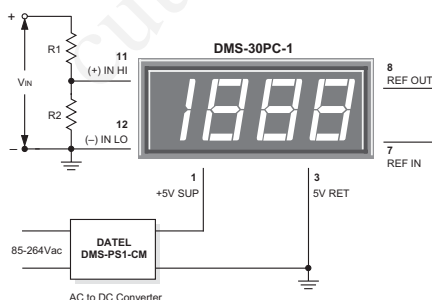

Figure 4. Input Attenuation Circuit
3. Engineering Scaling: For measuring voltages greater than the full scale input range of a given meter, the input signal must be attenuated. A simple voltage divider (similar to that shown in Figure 4) will scale the input to within the range of the selected meter. R1 and R2 should be precision, $\pm 1\%$, metal-film resistors with absolute TCR's less than 50ppm/ $^{\circ}C$. See Ap Note 4 for more information on engineering scaling.